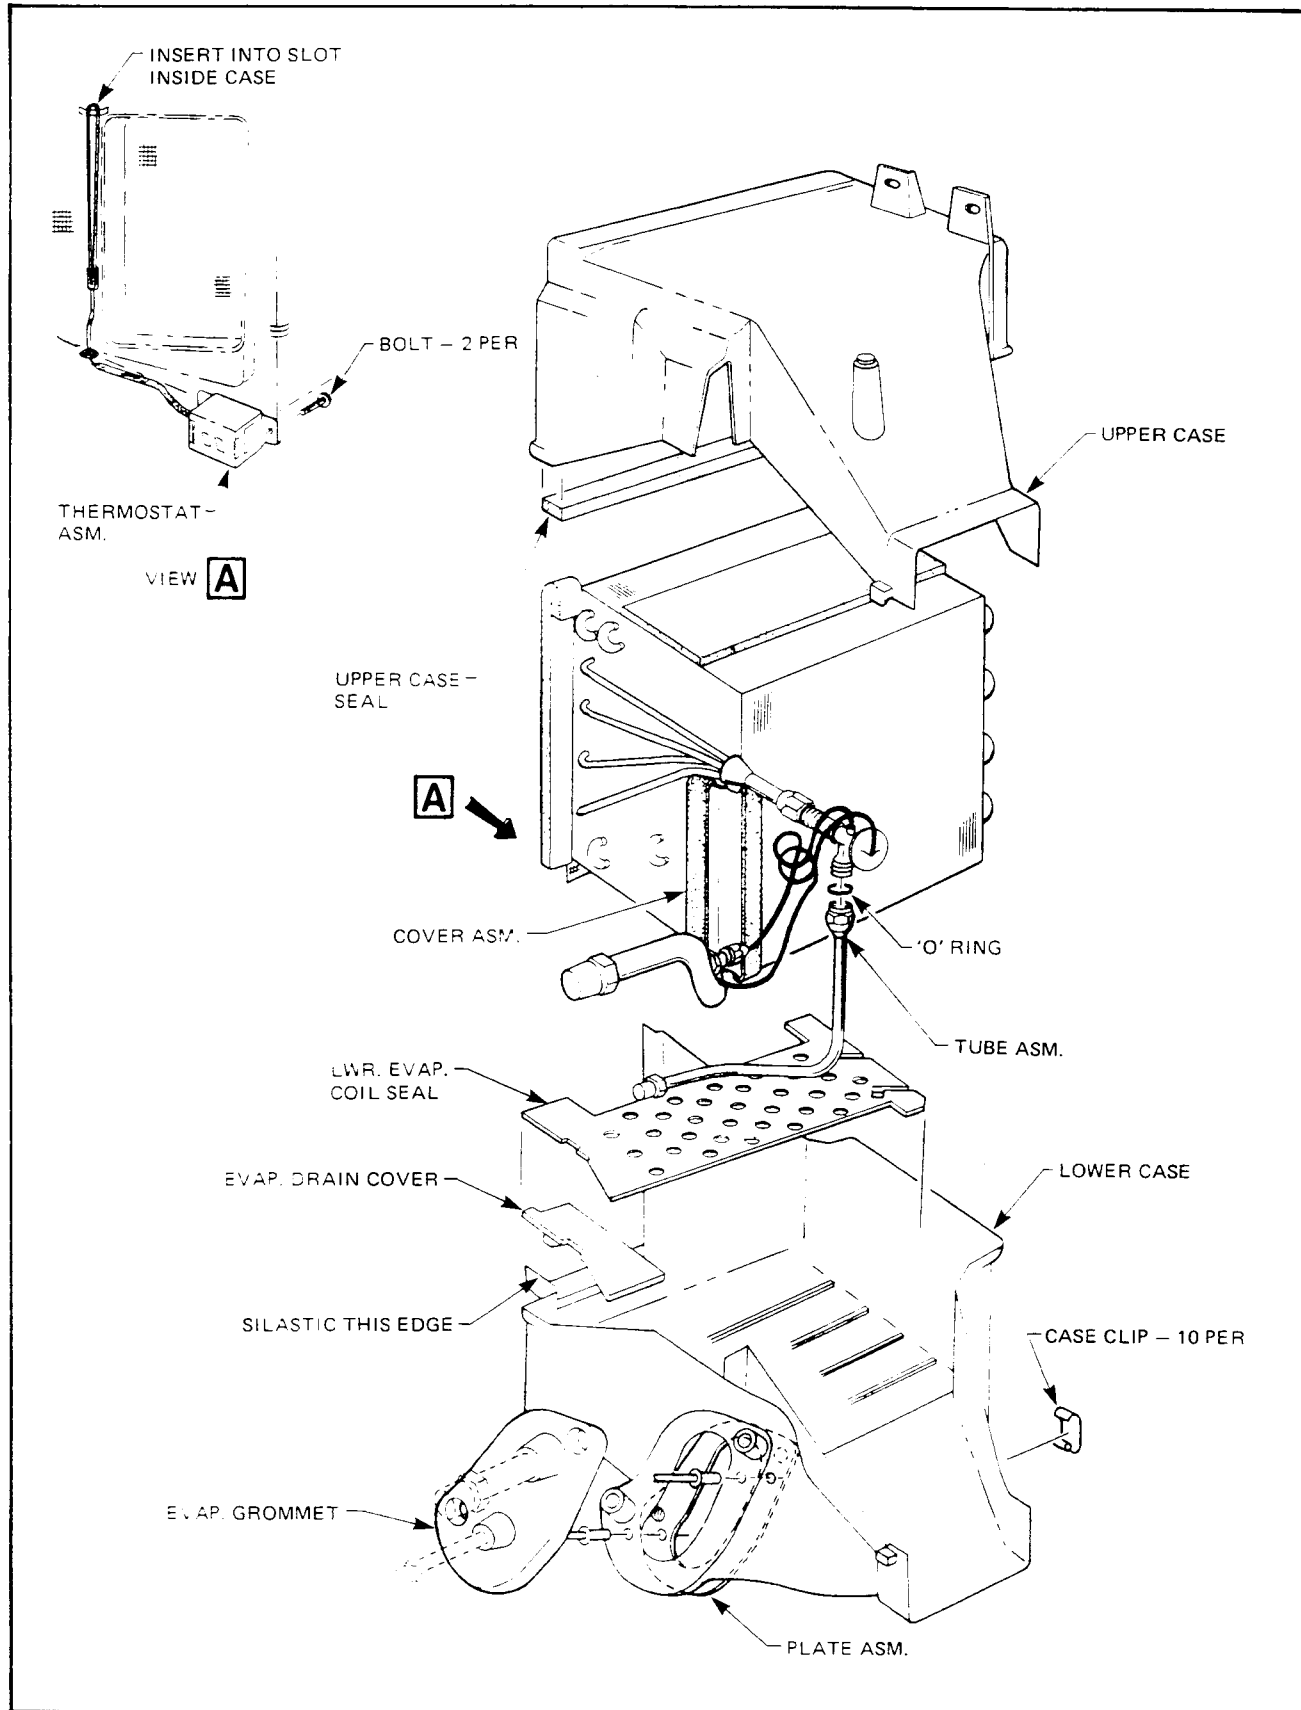

Figure 2B-34
2. Remove the spring clips illustrated in Fig. 2B-34 which secure the upper and lower sections of the evaporator case together.
4. Whilst removing the upper section of the evaporator case, carefully ease the TXV sensor tube illustrated in View 'A' Fig. 2B-34, from the slot in the inside case.